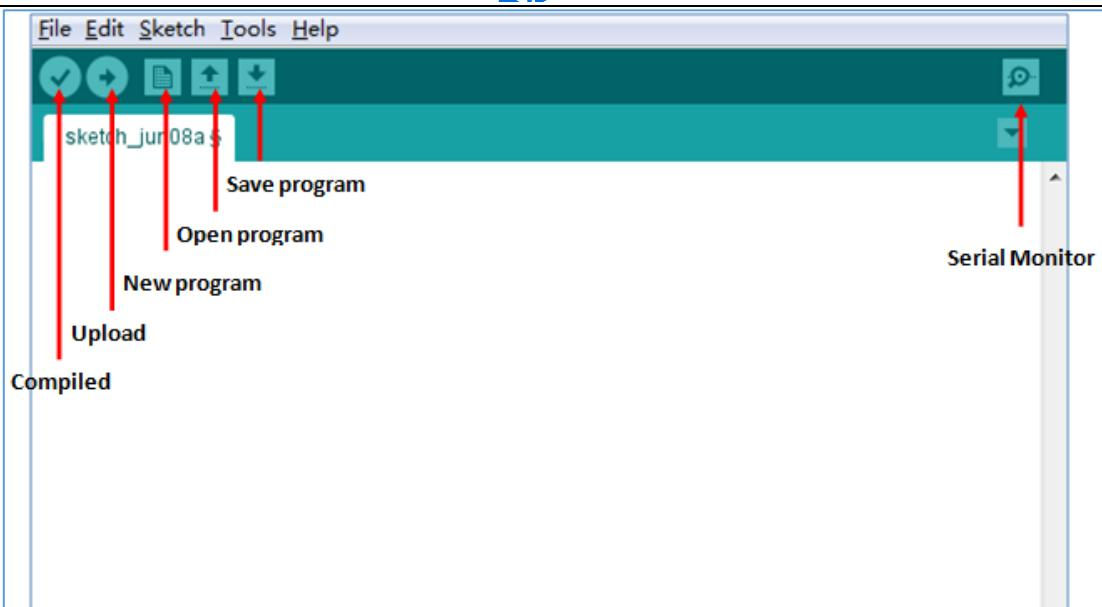

Figure 2.1.12 Arduino IDE Interface
- 1、 The first thing you can see is the interface of the following figure. The functions of the toolbar buttons are "Compile" - "Upload" - "New Program" - "Open Program" - "Save Program" - "Serial Monitor" , as shown in Figure 2.1.12.